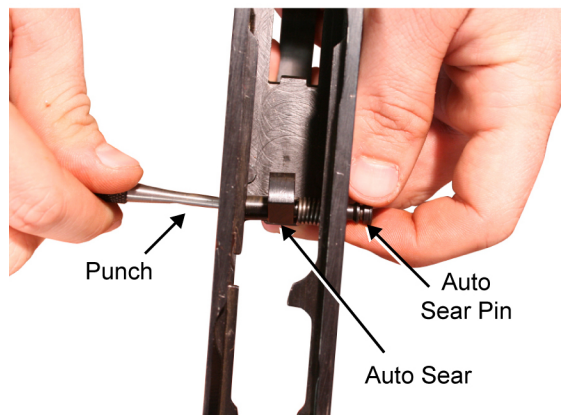

Figure 24. Removing the Auto Sear Retaining Pin.
- l. Maintaining pressure on the auto sear spring, use a punch to push the auto sear retaining pin from the right side of the receiver and remove the pin from the left side of the receiver. Refer to Figure 24.